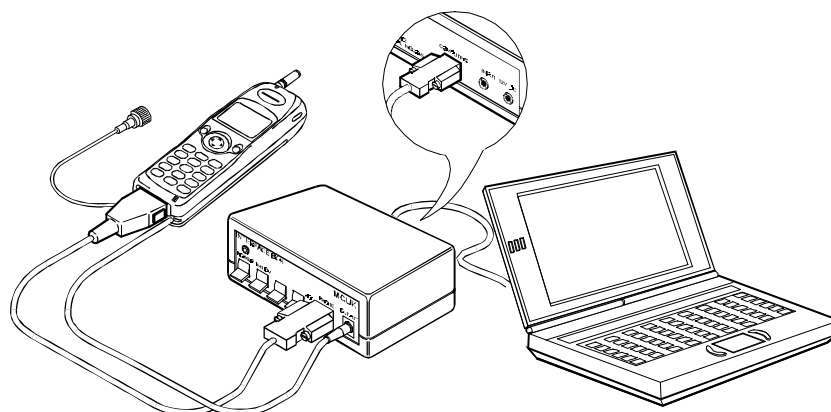

Figure 7: External test equipment setup
1. ( Figure 7) Connect together the test equipment.